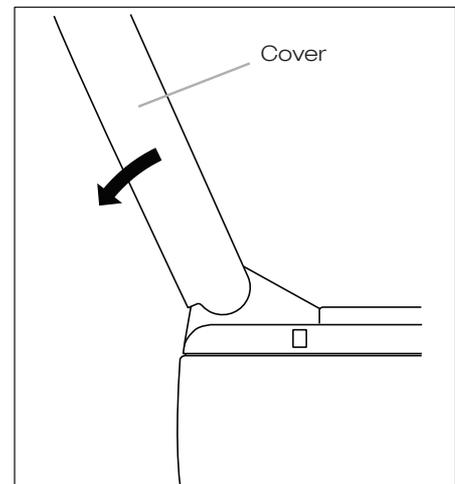

Figure 16
1. After opening the cover, it can be detached by pushing it backwards (See Figure 16).